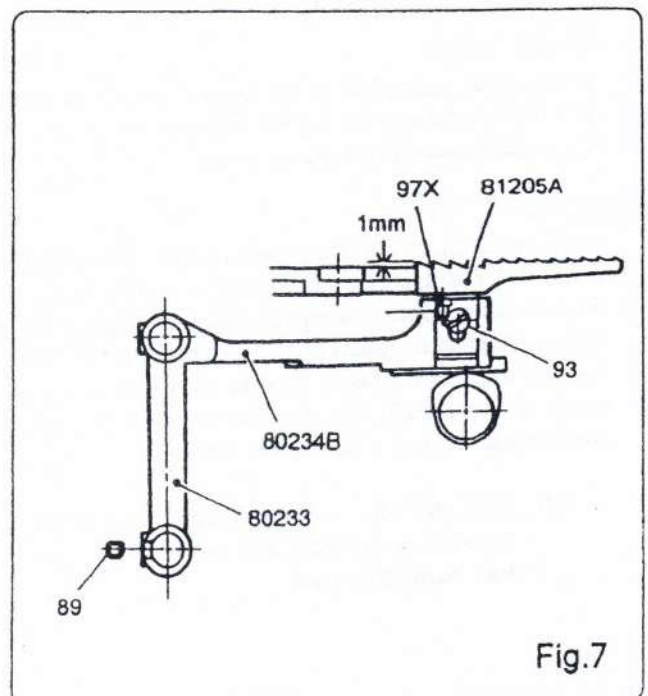

Fig. 7
Rearmost row of teeth must be 1 mm high above throat plate as shown in Fig. 7, when feed dog is in the highest position. To obtain the dimension, adjust height of screw (97X) of feed bar (80234B), after removing feed dog (81205A). Screw (97X) supports feed dog from below and thus determines height of feed dog. Push in feed dog so it rests on screw (97X). Tighten setscrew (93) to hold feed dog in place. Each file of teeth of feed dog must be centered in slot of throat plate (81224D), with equal clearance on either side. To adjust, move feed rocker (80233) as appropriate after loosening setscrews (89).
送り金が最も上がったとき、最後部の歯が Fig.7で示す通り、針板上面より1mmになる様に、高さを調整して下さい。調整方法は、送り金 (81205A) を取りはずし、送り台 (80234B) のネジ (97X) で高さを調整して、送り金はそのネジ頭に当るようにして、送り金のセットネジ (93) を締付けて下さい。次に送り金と、針板 (81224D) の溝部とのスキマが均一になるように、送り元土台 (80233) のセットネジ (89) を締め、送り元土台を動かして調整して下さい。